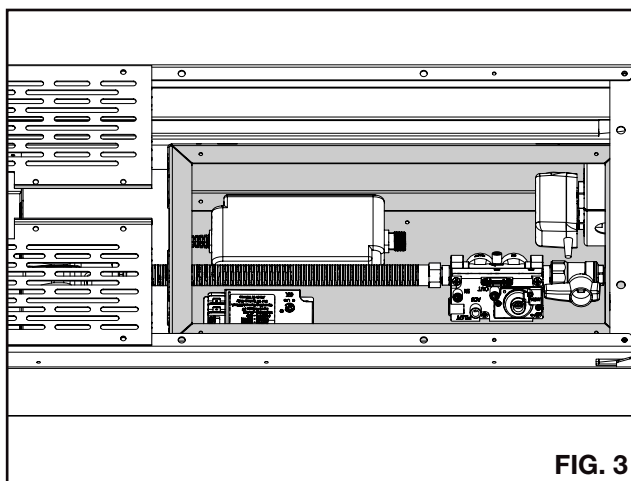

FIG. 3
3. Install the control switch using the nailing tabs and the 20' (6m) wire provided. Note the tabs can be bent for install if required. (FIG 3)
4. Remove the template after finishing materials have been installed. (FIG 3.)
6. Locate the electrical components and the valve. (FIG. 3)